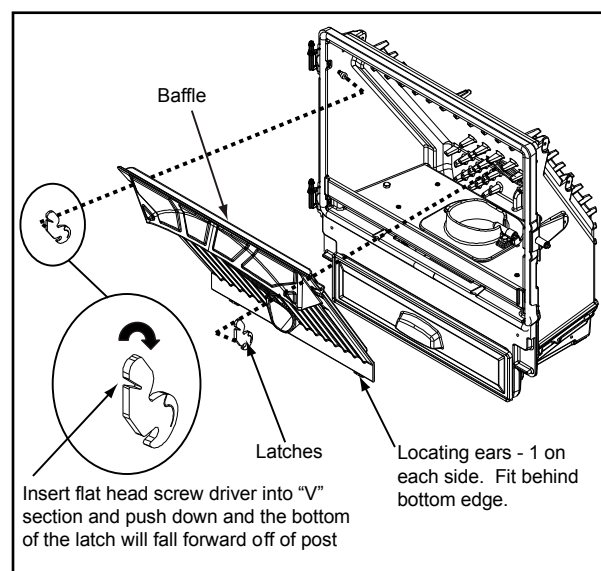

Figure 50.3
- a. Place a flat head screwdriver into the slot of the latches located in the upper corners. **Figure 50.3.**